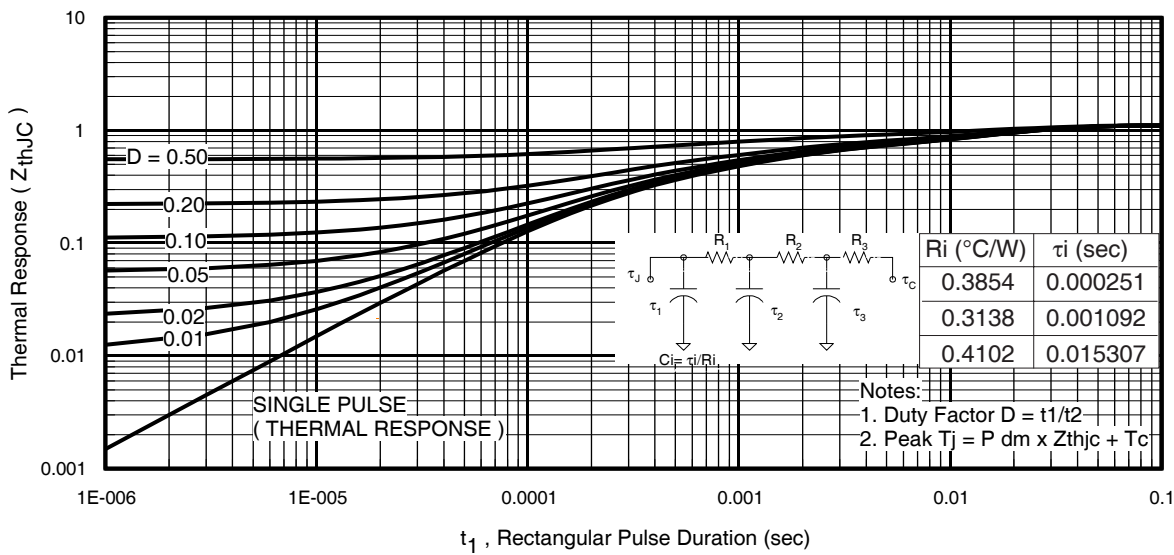
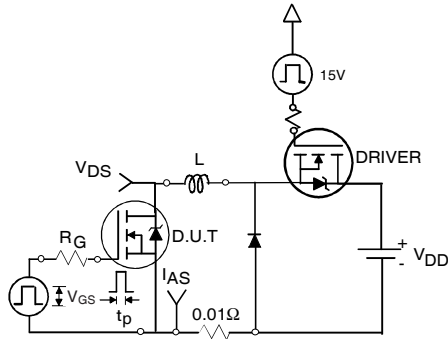

Fig 11. Maximum Effective Transient Thermal Impedance, Junction-to-Case
Fig 12a. Unclamped Inductive Test Circuit
3. Equation below based on circuit and waveforms shown in Figures 12a, 12b.
$Z_{thJC}(D, t_{av})$ = Transient thermal resistance, see figure 11)
- ① Repetitive rating; pulse width limited by max. junction temperature. (See fig. 11).
- ② Limited by T_{Jmax} , starting $T_J = 25^\circ\text{C}$, $L = 0.13\text{mH}$, $R_G = 25\Omega$, $I_{AS} = 42\text{A}$, $V_{GS} = 10\text{V}$. Part not recommended for use above this value.
- ③ Pulse width $\leq 1.0\text{ms}$; duty cycle $\leq 2\%$.
- ④ C_{oss} eff. is a fixed capacitance that gives the same charging time as C_{oss} while V_{DS} is rising from 0 to 80% V_{DSS} .
- ⑤ Limited by T_{Jmax} , see Fig.12a, 12b, 15, 16 for typical repetitive avalanche performance.
- ⑥ This value determined from sample failure population. 100% tested to this value in production.
- ⑦ When mounted on 1" square PCB (FR-4 or G-10 Material). For recommended footprint and soldering techniques refer to application note #AN-994
- ⑧ R_θ is measured at T_J approximately 90°C